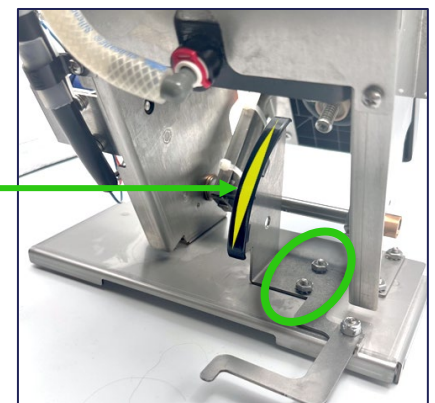

Fig. 5
- Apply lubricant to cam slope in highlighted area (**Fig. 5**)